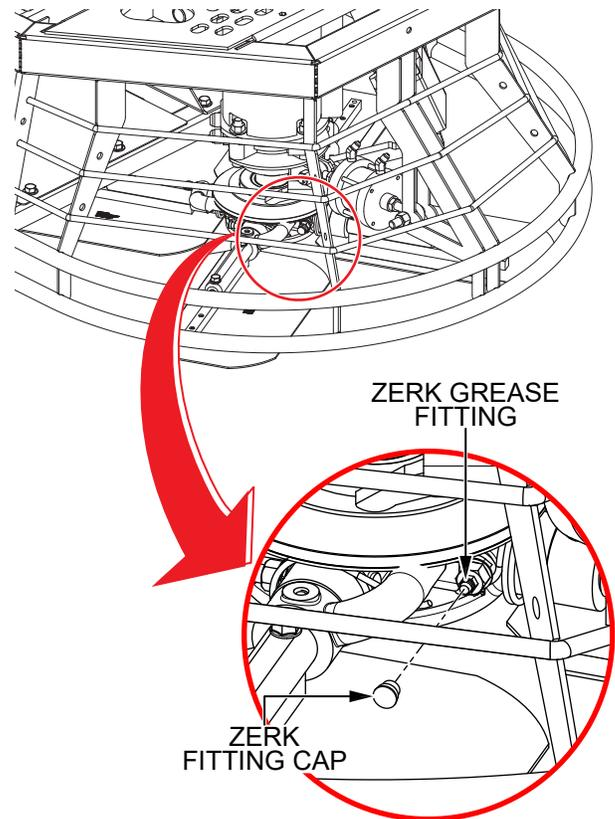

Figure 41. Spider Lubrication
1. Locate one of the Zerk grease fittings on either spider assembly (Figure 41). Remove the Zerk fitting cap and set it aside.